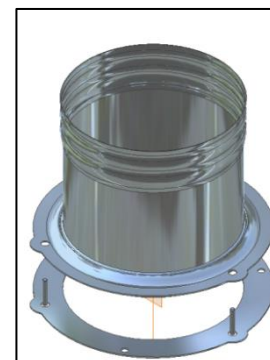

Figure 3-7: 6CON Liner Connector
The Elegance 36 fireplace can be connected to a masonry chimney that complies with current national and municipal building codes. A 6 inch chimney liner that complies with ULC S635 M2000 (Canada) or UL 1777 (US) standards must be installed within the existing masonry chimney. Note that the 6CON connector (manufactured by SUPREME FIREPLACES INC.) must be installed to connect the prefabricated chimney to the liner (6CON sold separately). Refer to Figure 3-7.